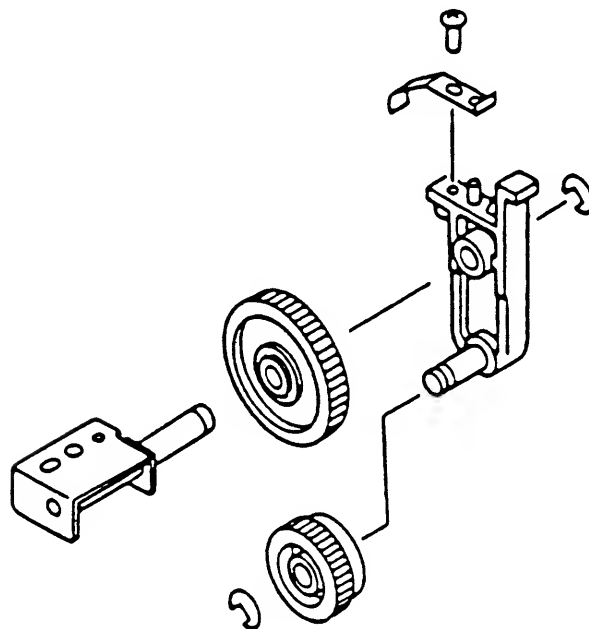

FIGURE 18
□ DELIVERY COUPLER ASSEMBLY (Figure 18)